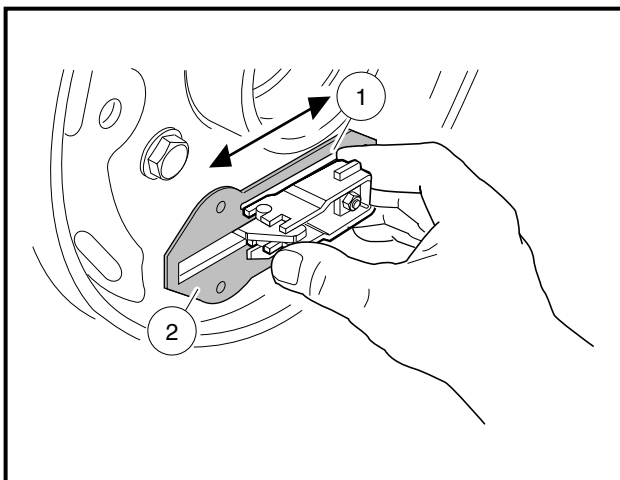

Figure 6-19 Lubricate Slide
3. Lubricate slide (1) and slide plate (2) with dry moly lubricant (CCI P/N 1012151) on both sides of the backing plate. After lubricating, work slide back and forth to ensure it slides smoothly and easily (Figure 6-19, Page 6-9). Reinstall rubber boot onto backing plate. See following WARNING.